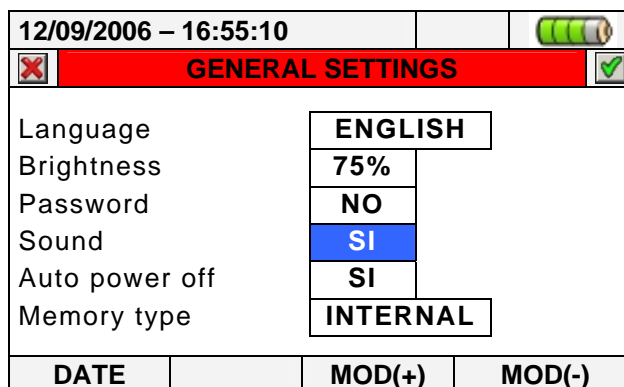

Fig. 14: Keys sound settings screen
1. Move the cursor using arrows keys on field relative to “Sound”, marked with blue background, see Fig. 14:
1. Move the cursor using arrows keys on field relative to “Memory type”, marked with blue background, see Fig. 14: